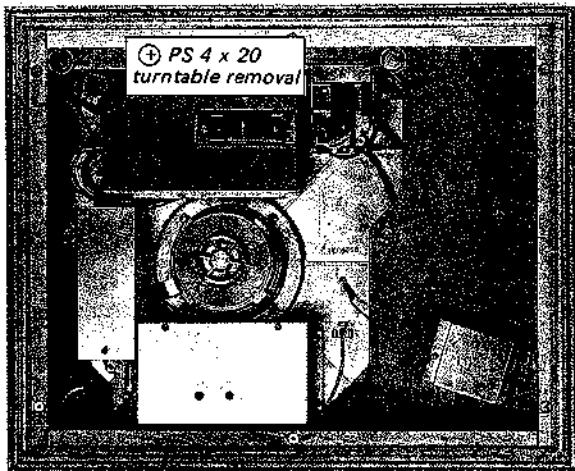

Fig. 2-4. Turntable base removal
3. Remove the three screws (\oplus P 5 x 16) and two screws (\oplus PS 4 x 20) securing the turntable base to the wooden case. This frees the turntable base. See Fig. 2-4.